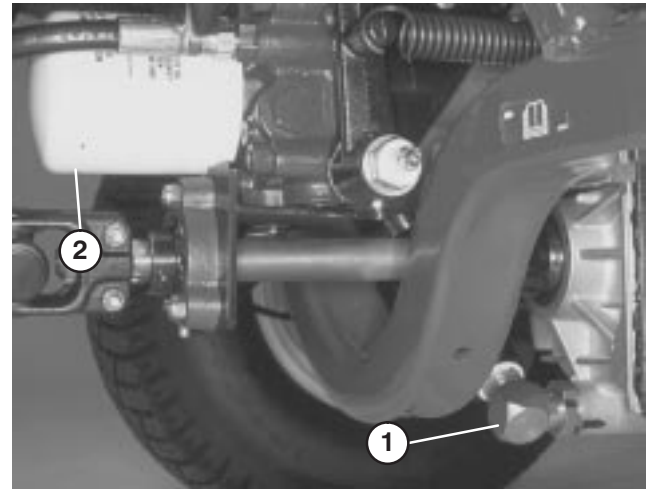

Figure 69
2. Clean area around suction line on bottom of transmission (Fig. 69). Place drain pan under line.
2. Clean area around filter mounting area (Fig. 69). Place drain pan under filter and remove filter.